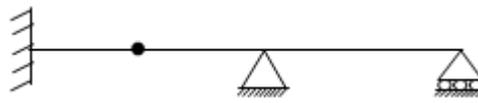

Fig.1
- Q.1** (a) Define:(1) Principle of Superposition **03**
(2) Maxwell’s Reciprocal Theorems
- (b) Find static and kinematic indeterminacy for the structures shown in below Fig.1 and Fig.2. **04**